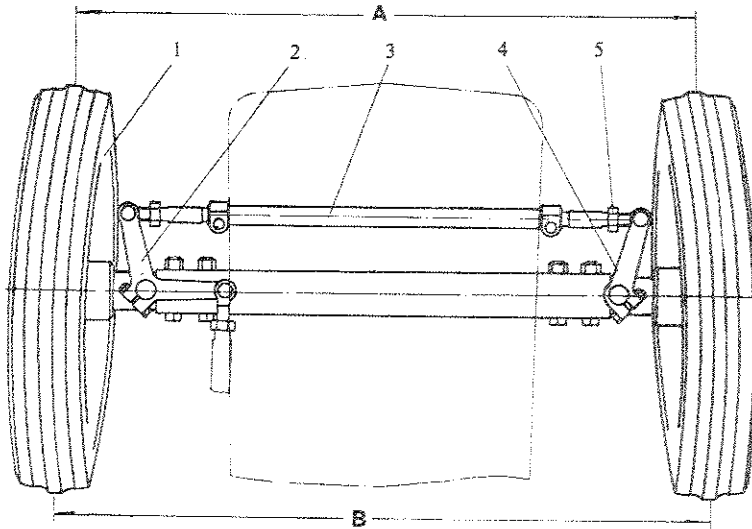

Fig. 5-8 Adjustment of the toe-in
(1) The adjustment of the toe-in is shown in Fig. 5-8. By means of adjusting the length of the tie rod, the distance of front end A should be made shorter than that of the rear end B, when the steering wheel at middle position. The difference between them is 3~11 mm.
(2) The axial play of the front wheel hub bearing shall be adjusted to lie in the range 0.05~0.15 mm. When adjustment is made, there shall be no radial load on the bearing. First tighten the castellated nut, then turn it backward $1/30 \sim 1/10$ circle. Be assured that the torque for turning is $1 \sim 3 \text{ N} \cdot \text{m}$, then lock up the cotter pin.